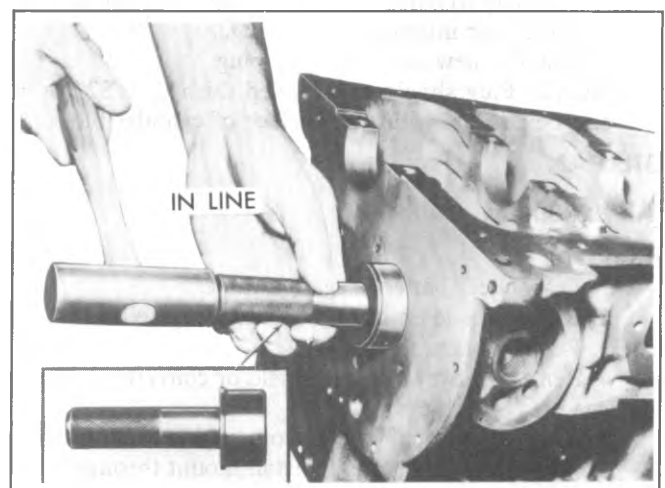

Fig. 6A1-25--Replacing Camshaft Front Bearing
6. Using two wrenches, hold puller screw while turning nut. When bearing has been pulled from bore, remove remover and installer tool and bearing from puller screw (fig. 6A1-24).